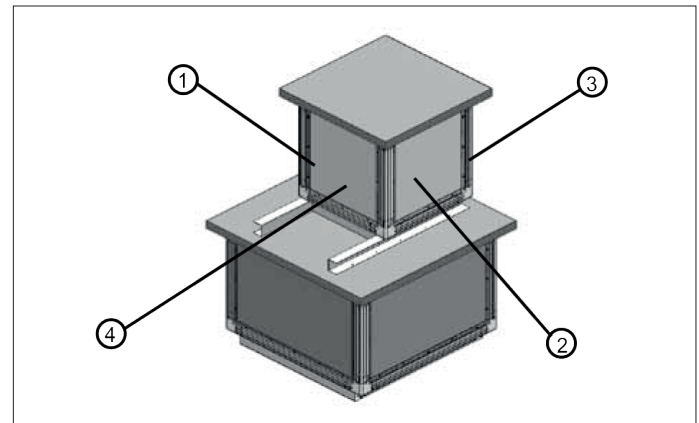

Fig. 44. Unit with unequal widths - situation D
- Direction 4: Cut the connection profiles to the correct length and mount them on the correct sides (See Fig. 44).